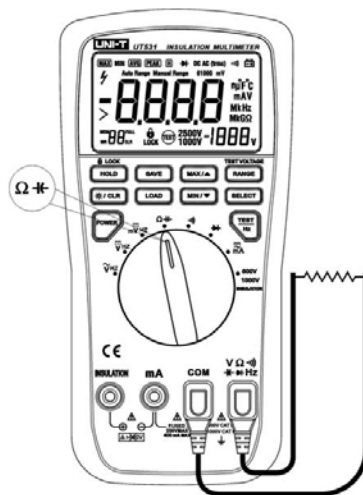

Figure 8.Measuring Resistance
- ***Measuring Resistance*** (see figure 8)